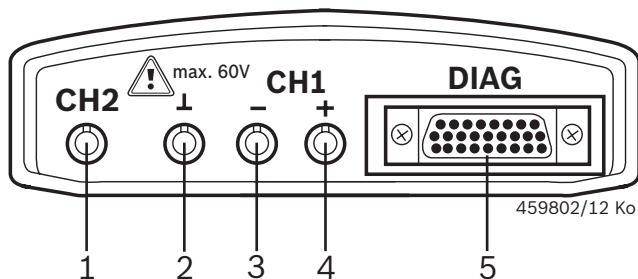

Fig. 1: Diagnosis terminals/Measurement terminals
- If no diagnosis cable is connected, a ground connection is to be made from the KTS modules before making any V-, R- or I-measurements (fig. 1, item 2) made connection to vehicle ground with the ground cable provided.